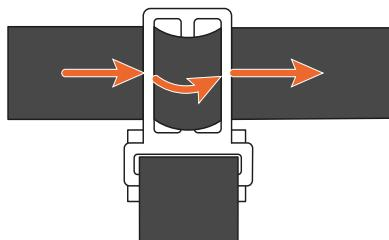

Figure 10 - Assembling straps and buckles.
- 11.** Take the buckle with three openings. Thread the 150 cm long strap through the buckle as shown in figure 10.